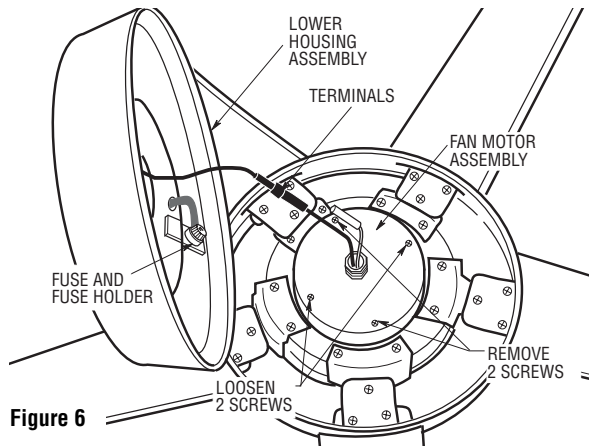

Figure 6
- 9. Remove two of the four screws in the motor assembly and loosen the remaining two screws (Figure 6).
- 10. Connect the terminals of the lower housing assembly to the terminals of the fan motor assembly (Figure 6).